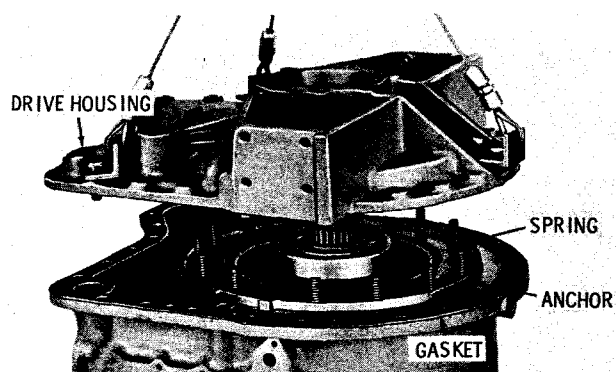

Fig. 7-30. Installing output drive housing
(1) On models which include a rear oil pump assembly 2 (B, foldout 16), install the assembly, indexing the slot in body 3 with the dowel pin in the output drive housing. Retain the pump assembly with snapping 1. Also, on rear pump-equipped models, install gasket 56 (A, foldout 17), inner lip first, into the rear pump oil passage in housing 6 or 40. Retain it with oil-soluble grease.
(2) Install the gasket onto the transmission housing.
(3) Install the output drive housing (fig. 7-30). Retain it with twenty-seven 5/8-11 x 1 3/4 bolts and lockwashers (installed from the front of the housing rear flange), and (in some models) two 5/8-11 x 3 3/4-inch bolts and lockwashers,
installed at the rear of the housing (fig. 7-30). Tighten the bolts to 117 to 140 pound feet torque.